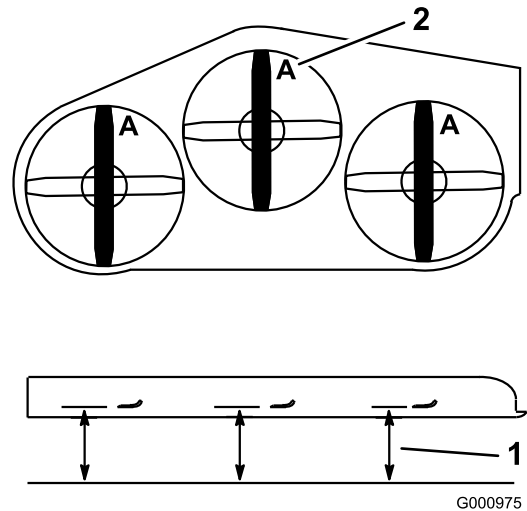

Figure 99
4. Measure from a level surface to the cutting edge, position A, of the blades (Figure 99).